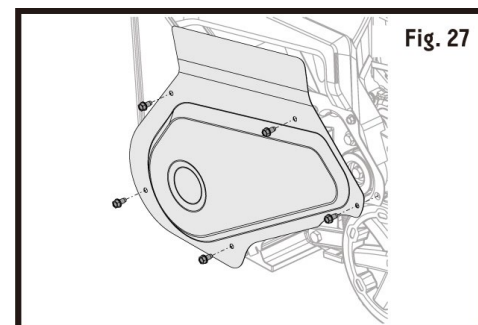

Fig. 27
3. Remove belt cover hardware and remove cover. Retain all parts (Fig. 27).